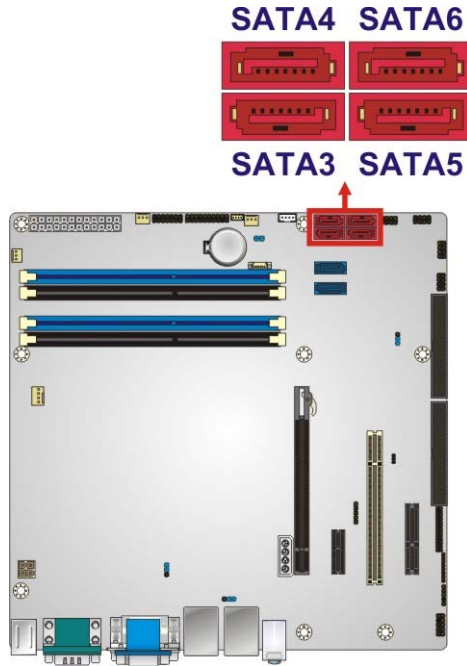

Figure 3-14: SATA 3Gb/s Drive Connector Location
- CN Location:** See **Figure 3-14**